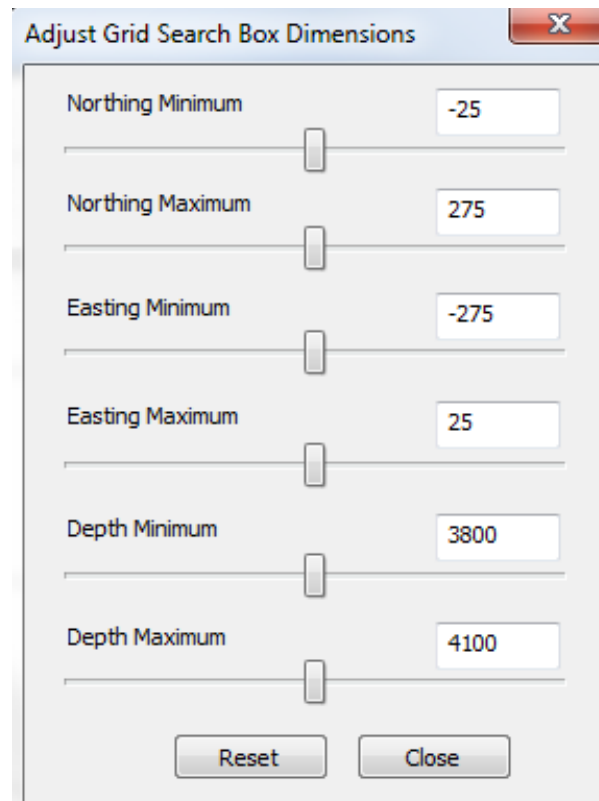

Figure 5-53: Dialog Box to adjust the Grid Search Box in 3D Visualiser.
3. Select the velocity model to use. Click on the Velocity Model Settings button to display the configuration parameters (Figure 5-53) for the model (see the Technical Appendices section 3.1).